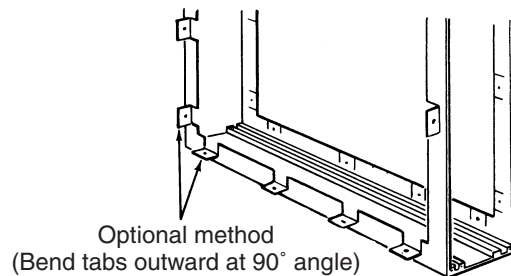

Figure 14
**NOTE:** An optional method of attaching duct work to the air filter cabinet is to modify the compartment (Figure 14) by bending the tabs outward at a 90° angle and attaching duct work to tabs.